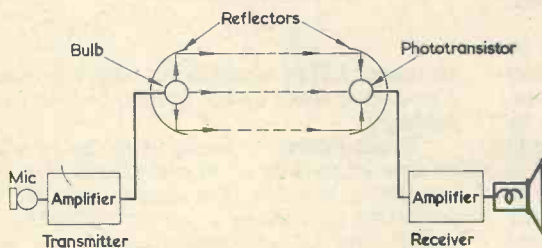

Fig. 1. The essentials of a light-modulated communication system
**T**HIS ARTICLE GIVES DETAILS OF A modulated-light transmitter and receiver which was constructed by the author for experimental purposes. The general principle of operation is shown, in block diagram form, in Fig. 1.